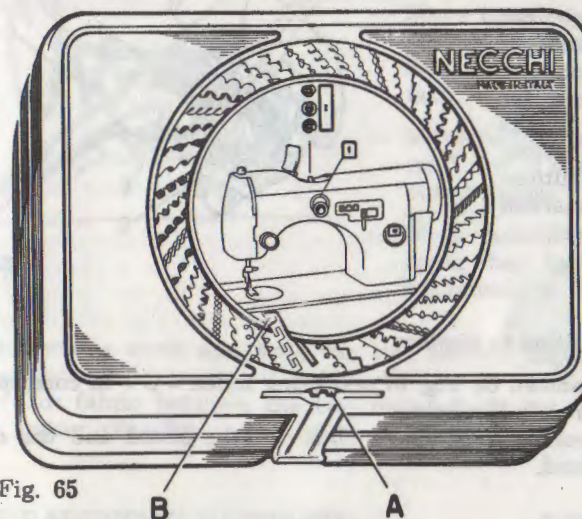

Fig. 65
- Bring desired pattern in correspondence with window «B» by turning knurled dial «A» Fig. 65).